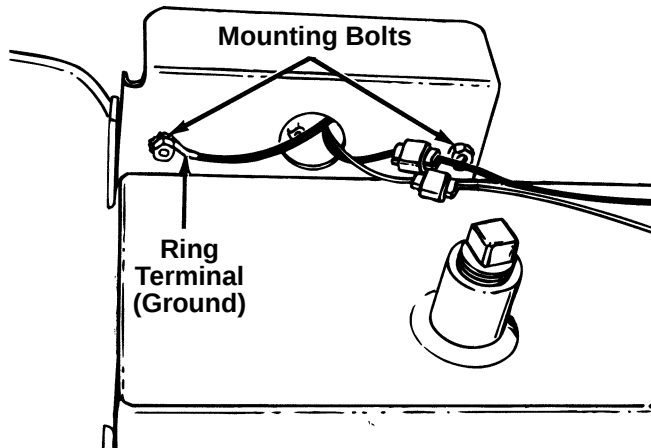

FIGURE 4.
5. Thread the taillight wires through the large center hole in the taillight brackets. Place the ring terminal on the black wire over either mounting bolt and secure with the lock washer and nut. See figure 4.